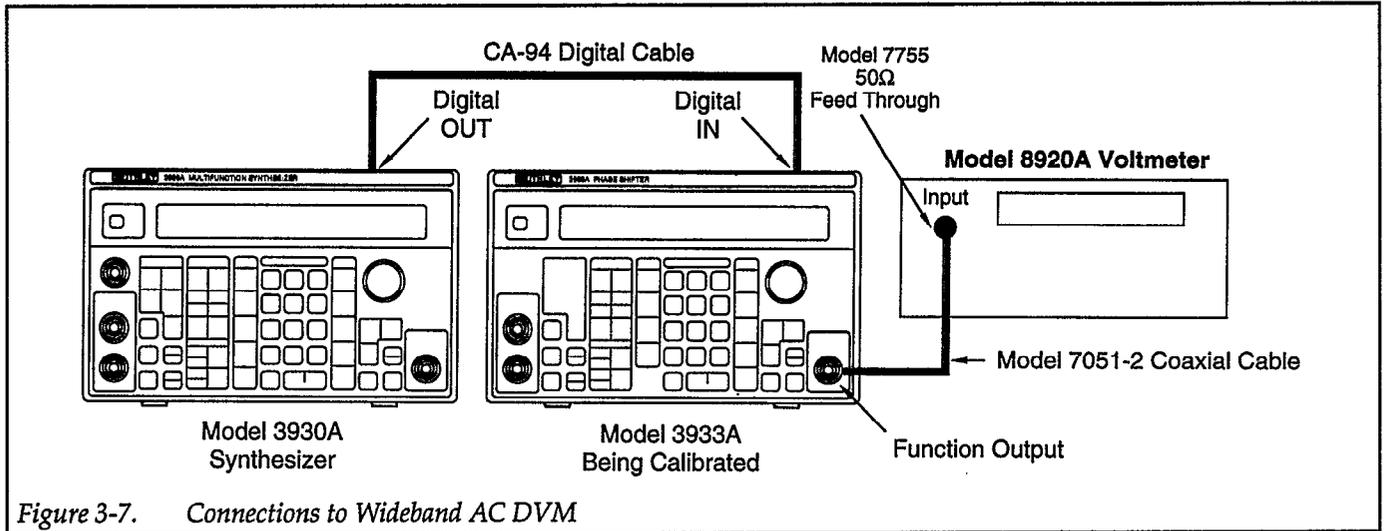

Figure 3-7. Connections to Wideband AC DVM
1. Connect the Model 8920A RMS Voltmeter to the FCTN OUT jack, as shown in Figure 3-7. Be sure to use the 50Ω feed-through terminator as indicated.